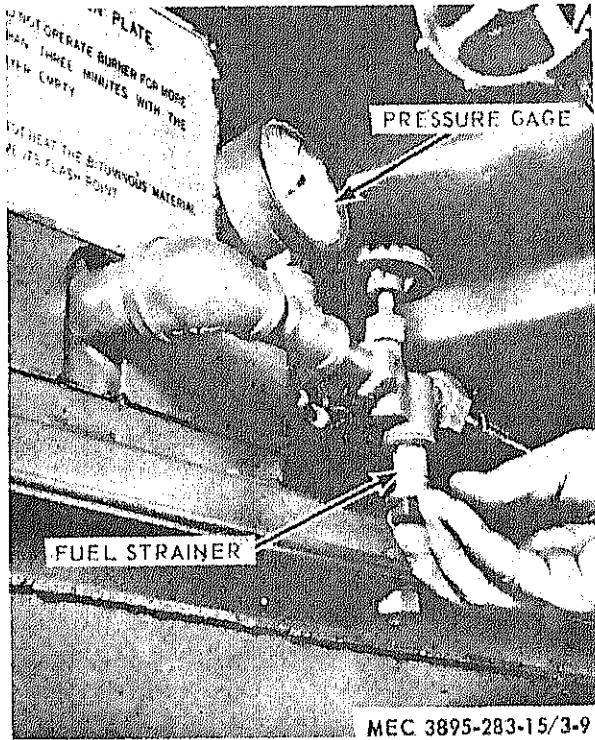

Figure 3-9. Strainer Valve.
- Remove strainer from valve housing (fig. 3-9).